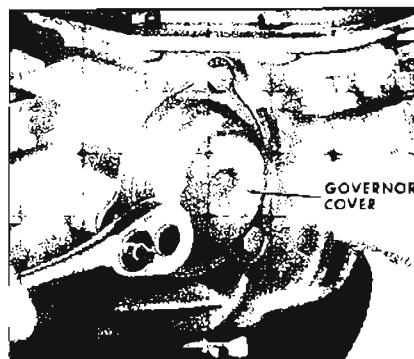

Figure 5-140
1. Remove three (3) attaching bolts retaining governor cover to case using a 1/2" socket. Remove cover and gasket. See Figure 5-140.